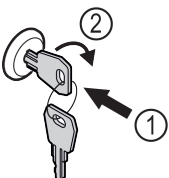

Fig. 157
- ▶ Insert key Fig. 157 (1).
- ▶ Turn key clockwise by 90° Fig. 157 (2).